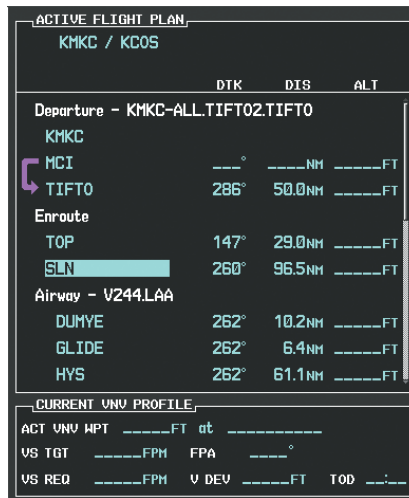

Figure 5-116 TOP Inserted into the Flight Plan
- d) Press the **ENT** Key. TOP is inserted into the flight plan as in Figure 5-116.
- e) With SLN still highlighted as in Figure 5-116, turn the small **FMS** Knob clockwise. The Waypoint Information Page is displayed and the **LD AIRWY** Softkey is now available.